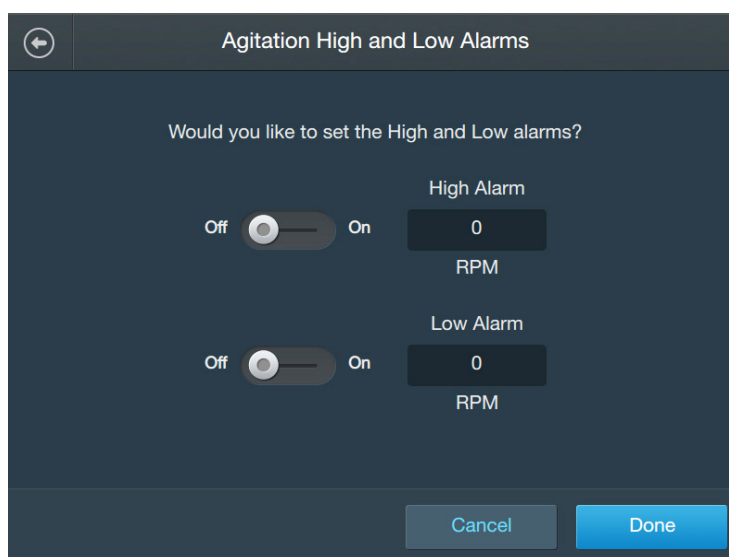

Figure 3.19. High and Low alarms screen.
4. On the screen that appears, there will be separate sections for both High and Low alarms (Figure 3.19). To set up the Low alarm, slide the Enable/Disable button to the “Enable” side. In the field under “High Alarm,” enter the temperature in degrees Celsius (°C) that will activate the High alarm.